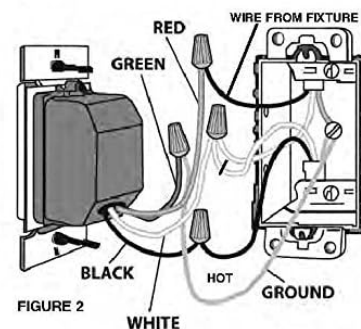

FIGURE 2
3. Connect red timer wire to wire from fixture using wire connector. Connect black timer wire to the "hot" (usually black or red) wire in junction box using wire connector. Cut white wire in junction box (or open splice) and strip 3/8" of insulation on both wires. Connect white timer wire to white wires in junction box using wire connector. (See Fig. 2)
6. Place all wires inside junction box. Fit timer into junction box. Next, install timer using (2) mounting screws furnished.